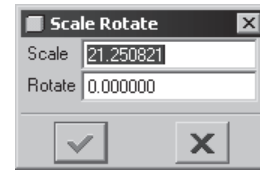

Figure 2-19 The **Scale Rotate** dialog box
- 2.. For inserting a sketch from the **working directory** tab, double click on the sketch and click anywhere in the drawing area; the **Scale Rotate** dialog box will be displayed, as shown in Figure 2-19.